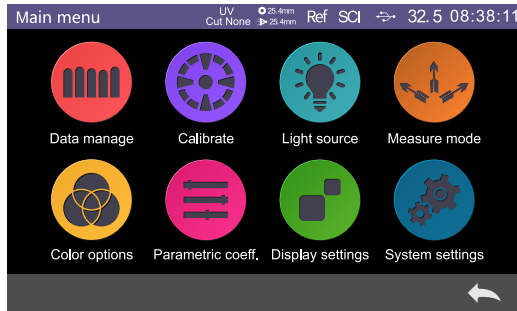
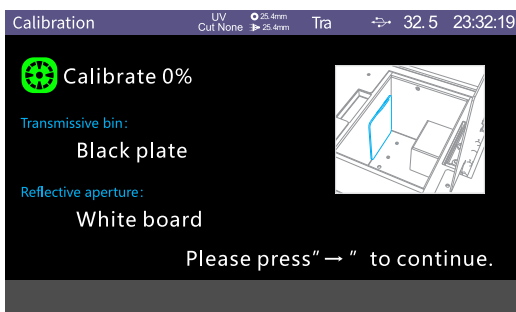

Figure 3 Main Menu
Figure 7 Transmission Black Calibration
- 1、 Enter into main menu as shown in Figure 3, click “Calibrate” to enter 0% calibration. Place the transmission black plate into transmission sample bin and stick it to the side of integrating sphere tightly, close the cover, and click the test key to start calibration.as shown in Figure 7.
- 1、 Enter the main menu as shown in Figure 3, click “Calibrate” to enter 0% calibration. Place the transmission black plate into transmission sample bin and stick it to the side of integrating sphere tightly, close the cover, and click the test key to start calibration.as shown in Figure 7.